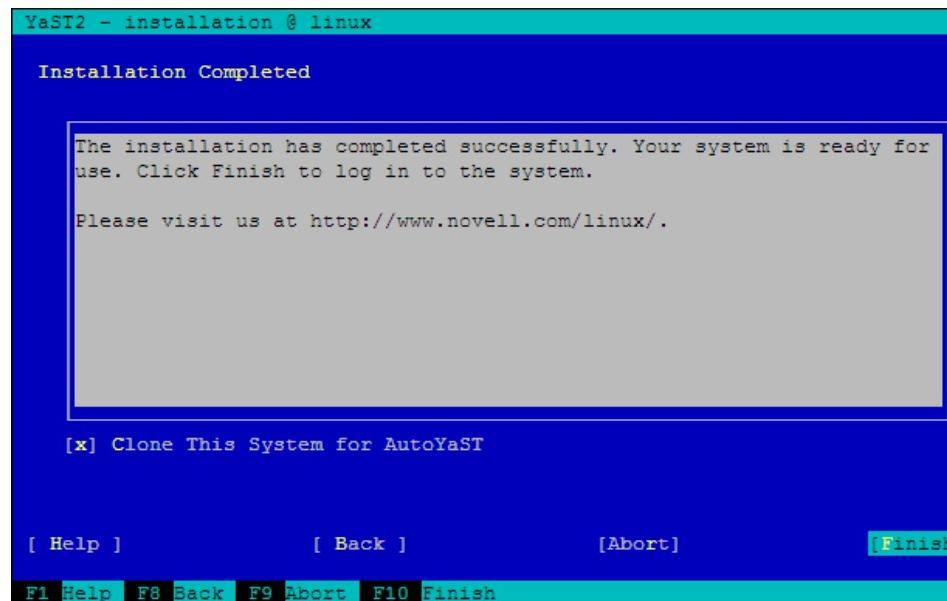

Figure 9-35 Installation completed window
- 28.YaST displays the Installation Completed window (Figure 9-35). Select **Clone This System for Autoyast** (see “SLES 11 automated installation” on page 395 for more information) if desired and then select **[Finish]**.
2. In the Installation Completed YaST window (see Figure 9-35 on page 393), select **Clone This System for Autoyast** and then select **[Finish]**. This creates an Autoyast profile in /root/autoinst.xml that is ready for immediate use.